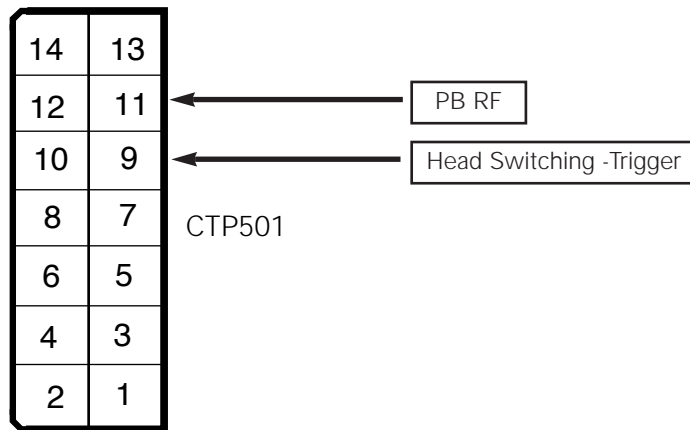

Fig. 1 Test point
3. The location of test point (See Fig.1)